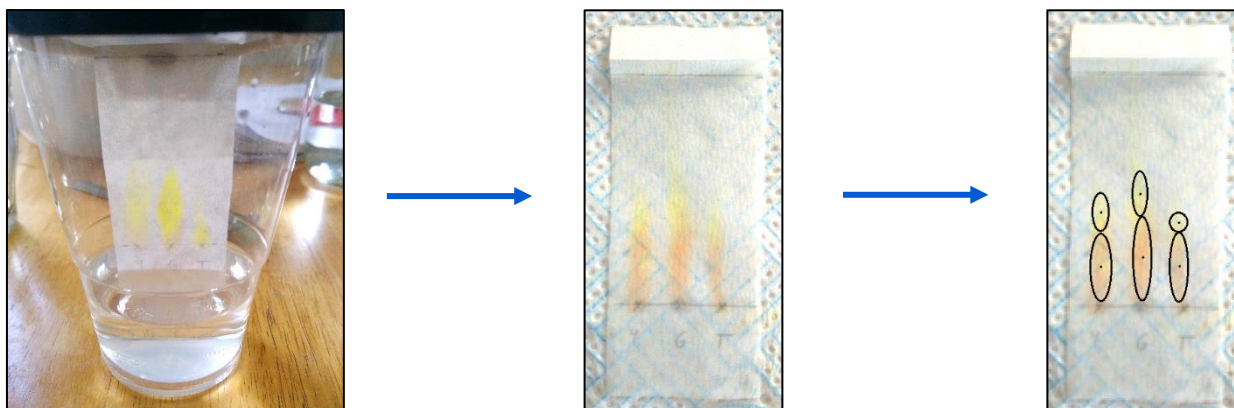

Figure 10. Separation by TLC.
- l) Watch how the different analytes travel up the TLC sheet (Figure 10, picture #1). Any mixtures should begin to separate and it is vital not to disturb the capillary process by moving the plate or the cup. Let the mobile phase reach the solvent front (but not further), at which point carefully remove the TLC sheet from the cup and place it on a piece of dry paper or kitchen roll (Figure 10, picture #2).
- m) Once the TLC sheet has dried out, circle all differently coloured spots on the sheet and put a dot in the centre of each spot with a ruler and a pencil (Figure 10, picture No. 3). This can be used to calculate retardation factors (R_f values).